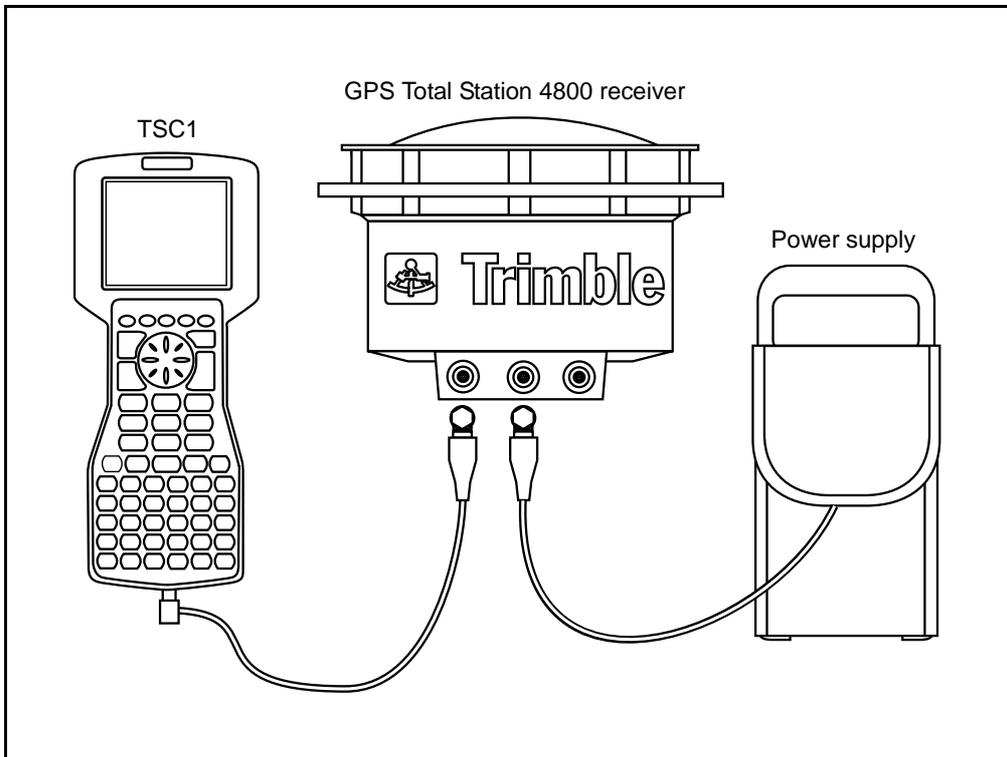
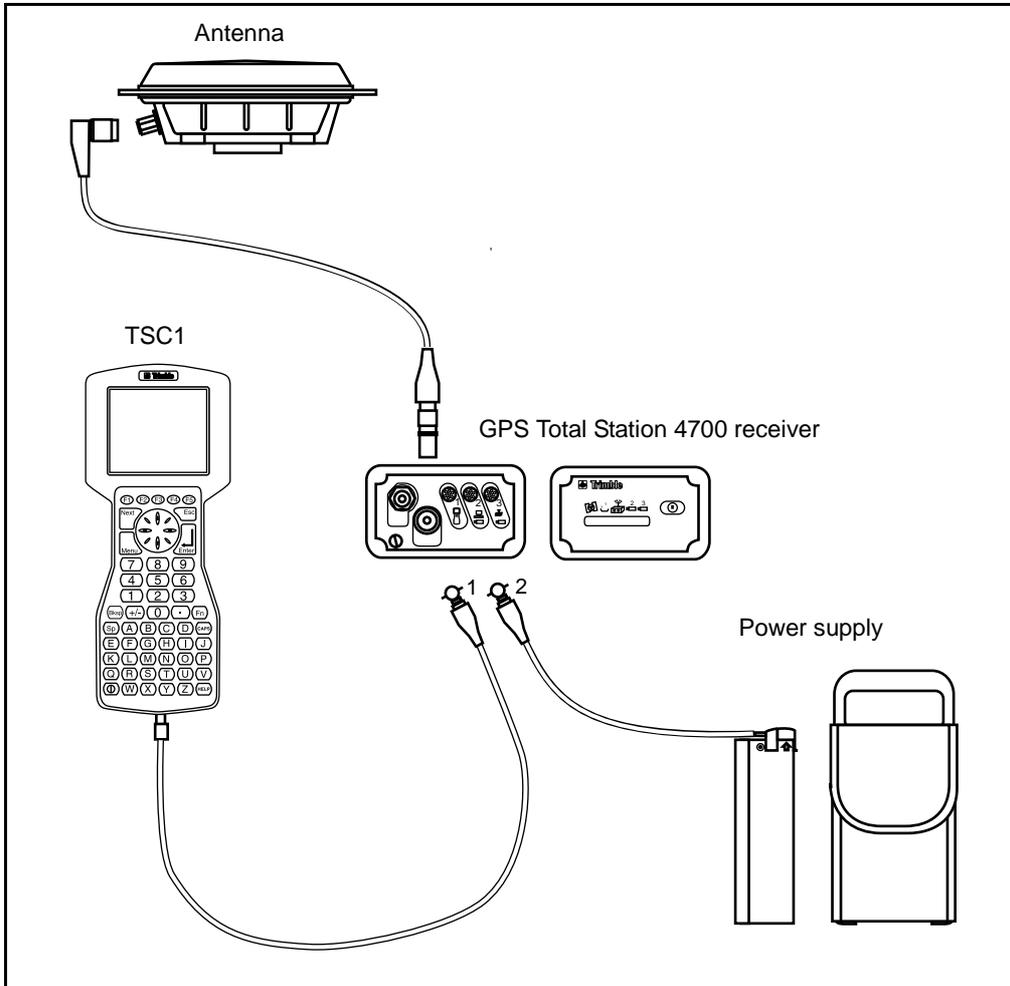

Figure 5.1 TSC1 connected to a GPS Total Station 4800 receiver (FastStatic survey)
Figure 5.2 TSC1 Connected to a GPS Total Station 4700 receiver (FastStatic Survey)
2. Connect the receiver as shown in Figure 5.1 (or Figure 5.2, depending on the receiver type).
Figure 5.1 shows how to connect a GPS Total Station 4800 receiver for a FastStatic survey.
Figure 5.2 shows how to connect a GPS Total Station 4700 receiver for a FastStatic survey.
2. Connect the hardware as shown in Figure 5.1 (see page 78) or Figure 5.2 (see page 79), depending on the receiver type.